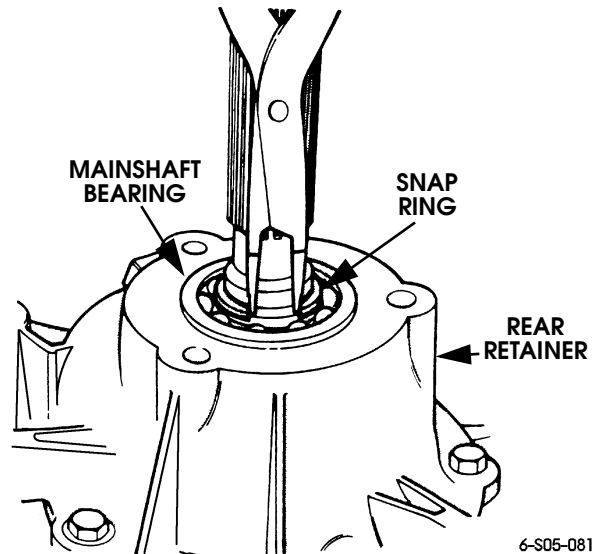

Figure 5-165: Rear Retainer and Mainshaft Snap Ring Installation
- 38. Align and install rear retainer (Figure 5-165). Install and tighten retainer bolts to 22-25 lb-ft (30-34 N•m).
- 39. Install mainshaft bearing snap ring (Figure 5-165).